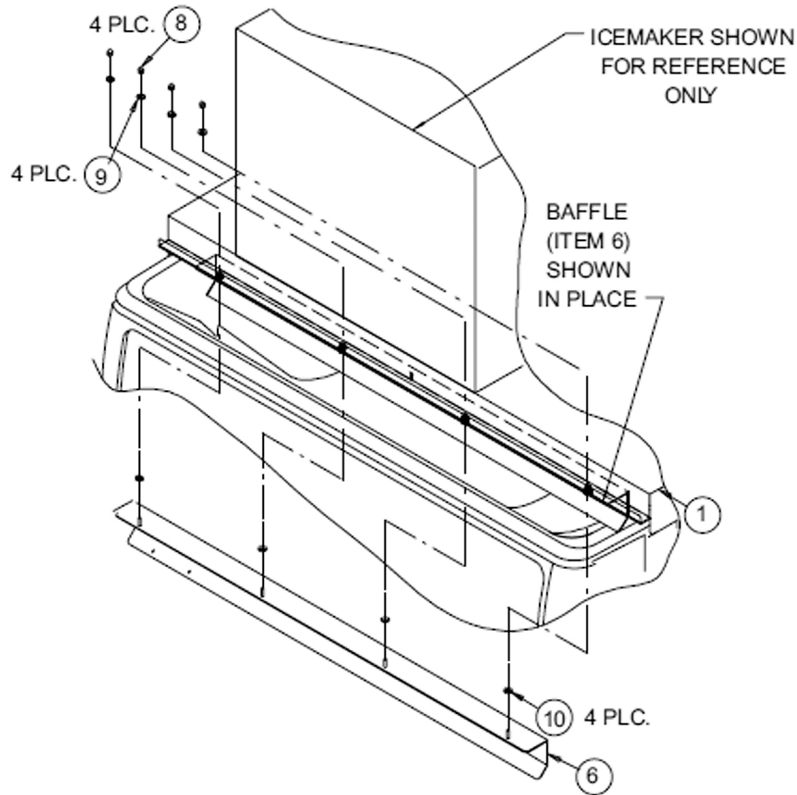
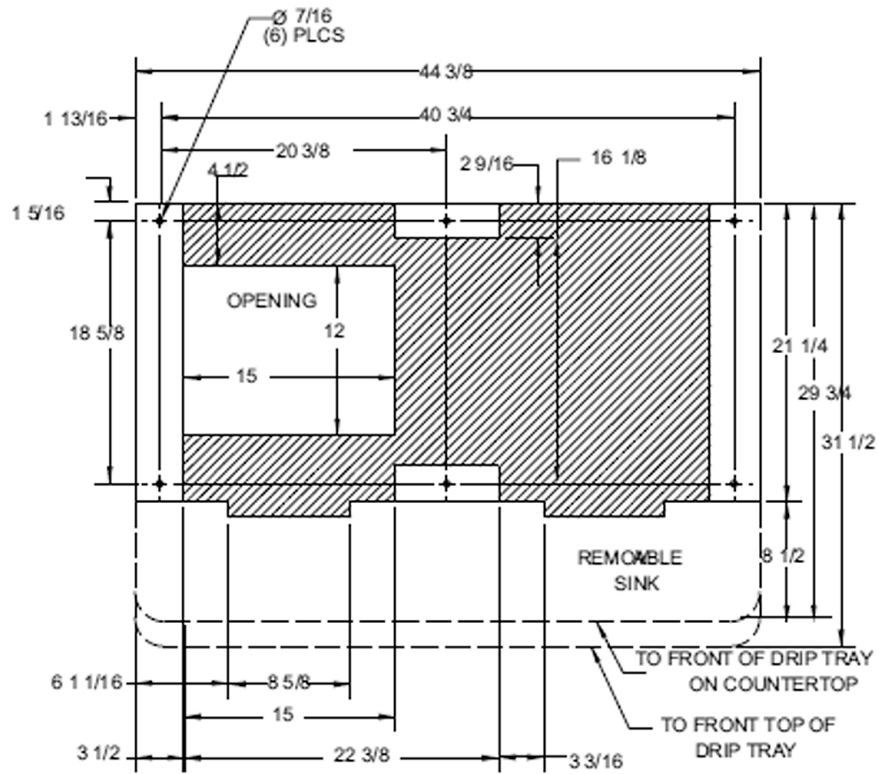

Figure 2. ED/DF300 Kit Ice Baffle Installation
Figure 3 ED/DF300 Mounting Template
The dispenser must be secured with 3/8-16 bolts (6) to the counter before installing this Ice Maker Adapter Kit. Refer to the installation manual and Figure 3 for the counter mounting template.
2. Remove the two (2) screws from each side of the dispenser cabinet and the plastic hopper covers (2) that were shipped with the unit.
3. Place the adapter lid on the unit and use the four (4) screws that were removed to fasten the lid in place.
4. Install the ice baffle on the lid assembly as shown in Figure 2.